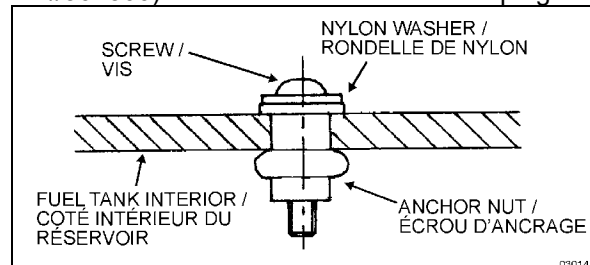

FIGURE 17: FUEL TANK REPAIR 03014
5. Place assembly in drilled hole. Tighten screw by 10 complete turns. Refer to Figure 17.